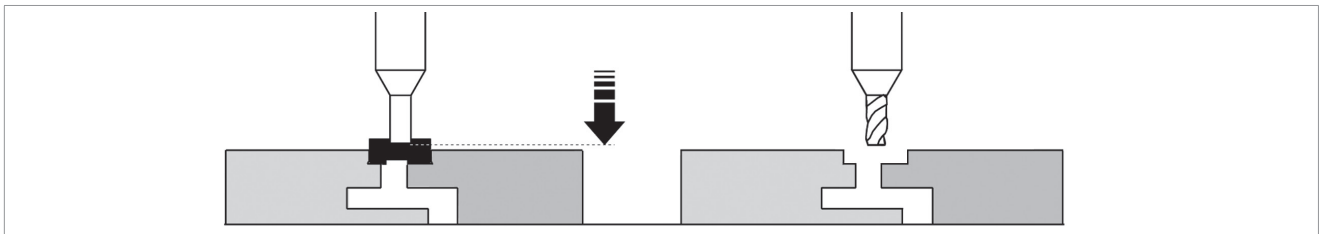
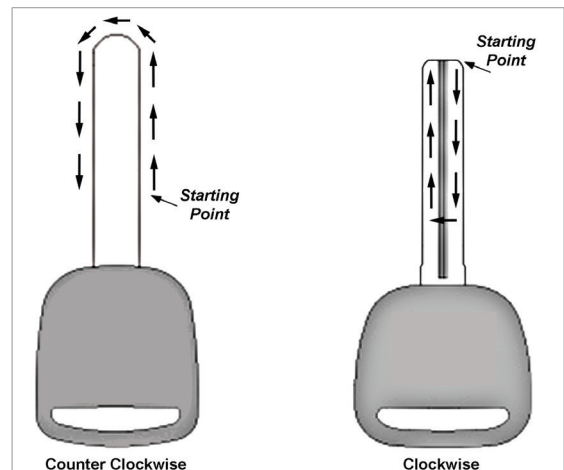

Fig. 26
Fig. 28
- 2) Use lever (J) to lower the vertical carriage, without exerting too much pressure, until the tracer rests in the bottom of the cut on the original key (Fig. 26) and secure the spindle at this height by means of knob (R).
- 4) Start the cutting operation by activating switch (Q).
- 5) Carry out cuts using only the left-hand lever (C) as shown in Fig. 28 below.